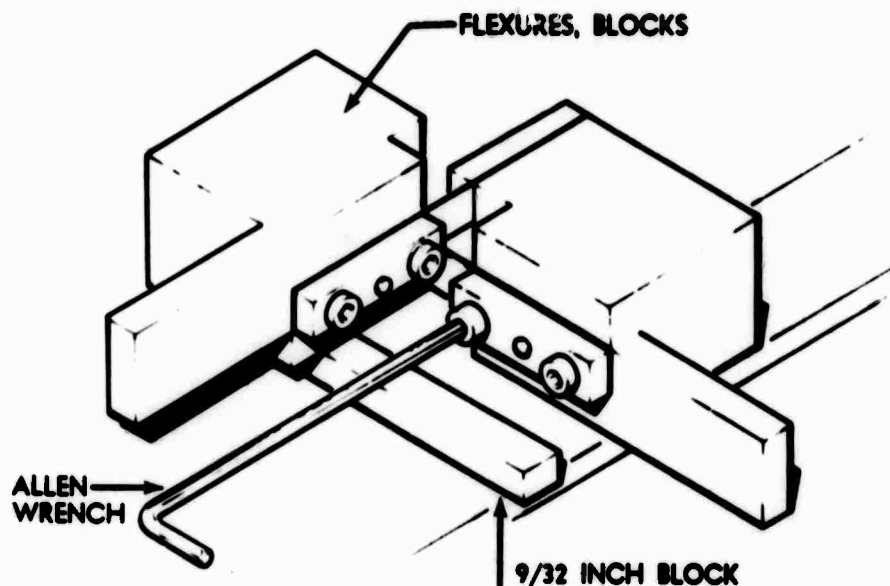

Figure 5-8. Flexure Pivot Reassembly
- d. Place the side of one flexure pivot block of one pair on a smooth flat surface such as a surface plate. Place a 9/32 inch toolmaker's flat under the other flexure pivot block of the pair (see figure 5-8). While holding one block against the surface plate and the other block firmly against the flat, tighten all eight capscrews securely.